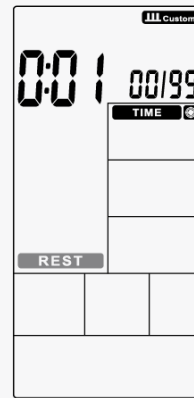

Figure 34
2. The TIME continues lighting up, WORK and 0:01 will flash, press UP/DOWN to set training time within 0:00~9:59 circularly (Figure 34). Press ENTER to confirm along with buzzer beeps 1s and INTERVAL CUSTOM continues lighting up.
2. The TIME continues lighting up, REST will flash, press UP/DOWN to set rest time 0:01~9:59 circularly (Figure 34). Press ENTER to confirm along with buzzer beeps 1s and INTERVAL CUSTOM continues lighting up.